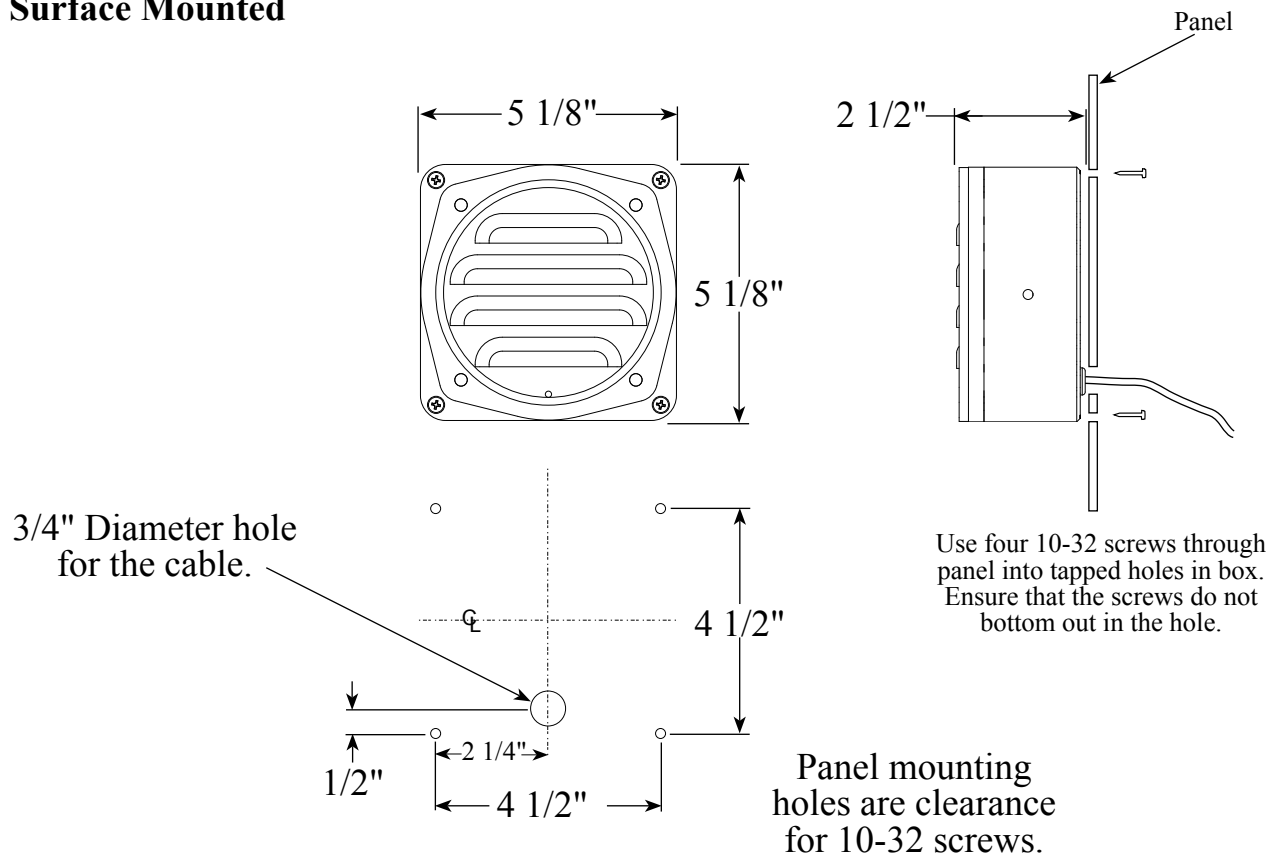

Figure 2. ICA900 Speaker Box Dimensions
1. Measure and mark mounting location for speaker box bracket. Refer to Figure 2 for layout and dimensions.
1. Measure and mark mounting location for speaker box cable hole and mounting screw holes. Make sure there is clearance behind the panel before drilling holes. Refer to Figure 2 for layout and dimensions.